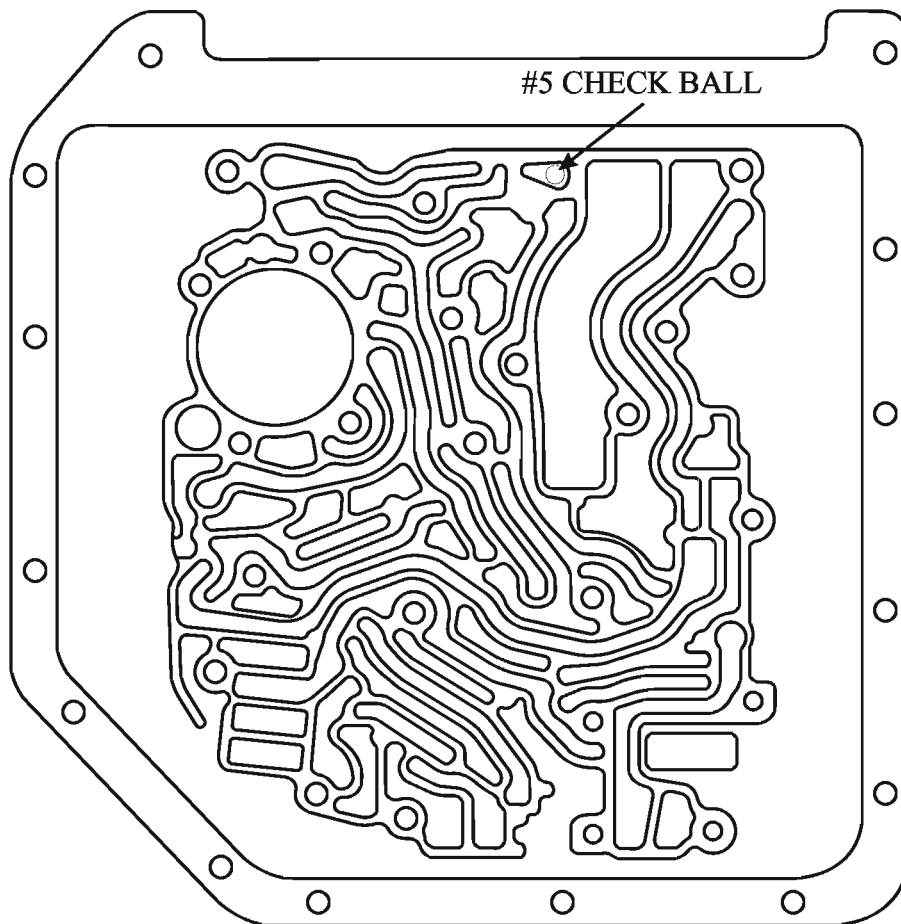

Figure 81
- 8 - Leave the number 5 check ball out of the case, *see figure 81.*